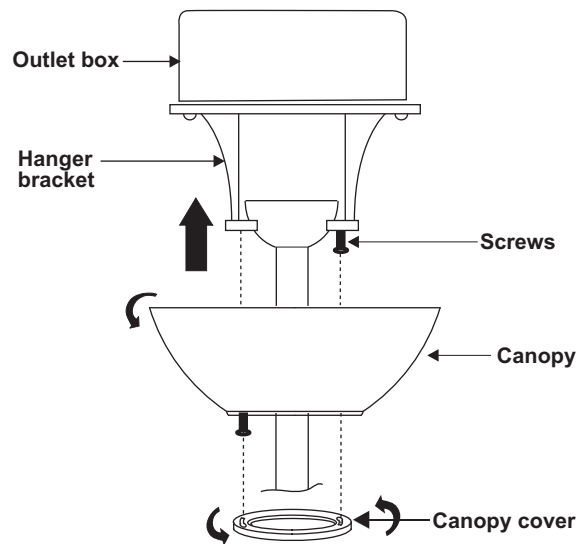

Figure 12
2. Slide the canopy up to hanger bracket and place the key hole on the canopy over the screw on the hanger bracket, turn canopy until it locks in place at the narrow section of the key holes. (Fig. 12)